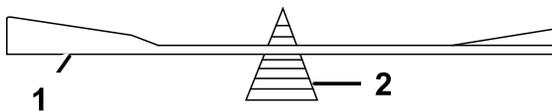

Figure 67
- Check the balance of the blade by putting it on a blade balancer (Figure 67).